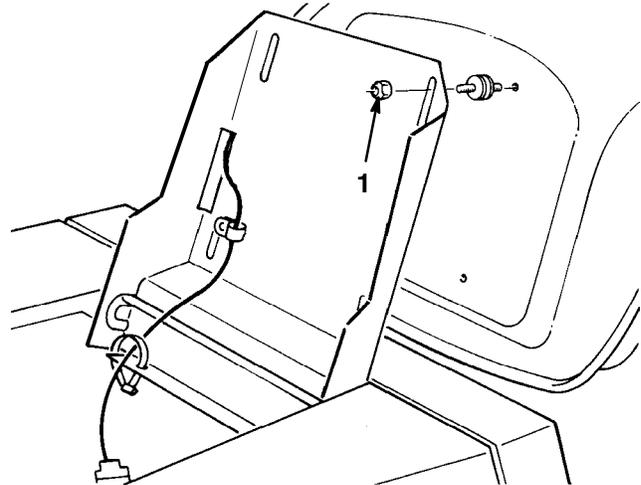

Figure 11
- Raise the seat and loosen the locknuts (Fig. 11).